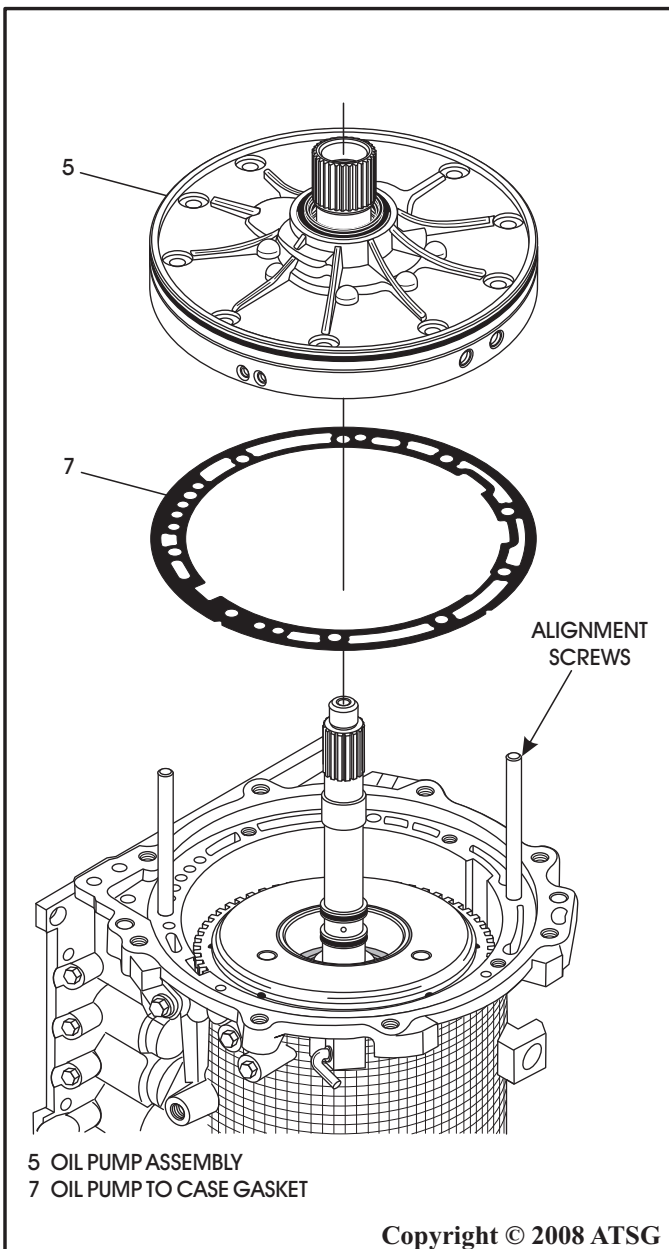

Figure 210
63. Install guide pins, and install new pump gasket as shown in Figure 210.
64. Install completed oil pump assembly, as shown in Figure 210.